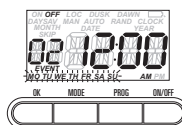

Fig. 8
4. Turn the knob to select the required days of the week that you want the **DUSK ON** event to occur. (Fig. 8)